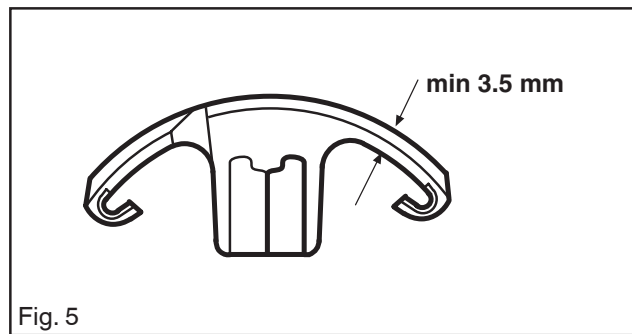

Fig. 5
1. The lining thickness on the clutch shoes must not be less than 3.5 mm at the most worn point. See fig. 5. To avoid imbalance all the clutch shoes must be replaced at the same time.
1. The taper on the adjuster screw (E) should not have any wear marks. See fig. 5.
2. The eccentric face on the pump piston should not have any wear marks. See fig. 5.
3. The gear on the pump piston should be undamaged. See fig. 5.